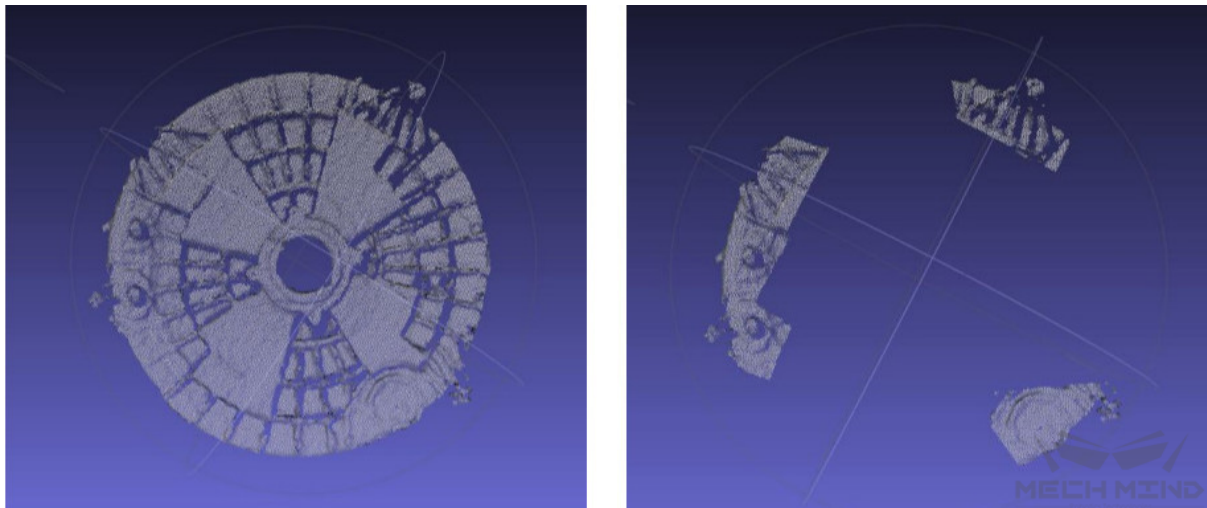

Figure 2.5 Continuous symmetric matching template - weight template
- For Continuous symmetric workpiece: the weight setting is consistent with the axisymmetric workpiece. As shown in figure 2.5 (left: Continuous symmetric matching template; right: Continuous symmetric weight template).